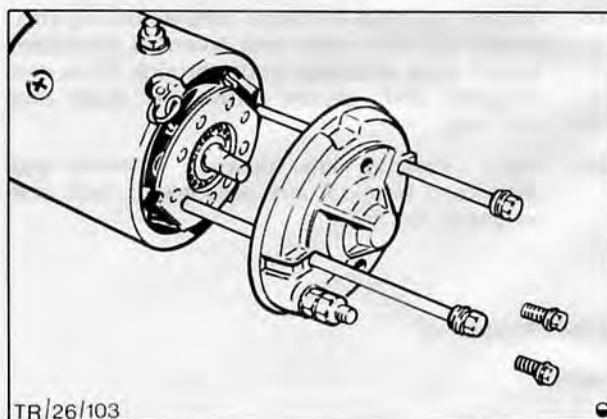

Fig. 59. Commutator end cover, recess screws and through bolts
4. Remove two recess screws from outer face of commutator end cover. The screws secure the brushgear assembly to inner face of commutator end cover; sealing washers are fitted to screws on the fully sealed starter. Remove through bolts complete with spring washer, locking washer and rubber seal (when fitted), Fig. 59.